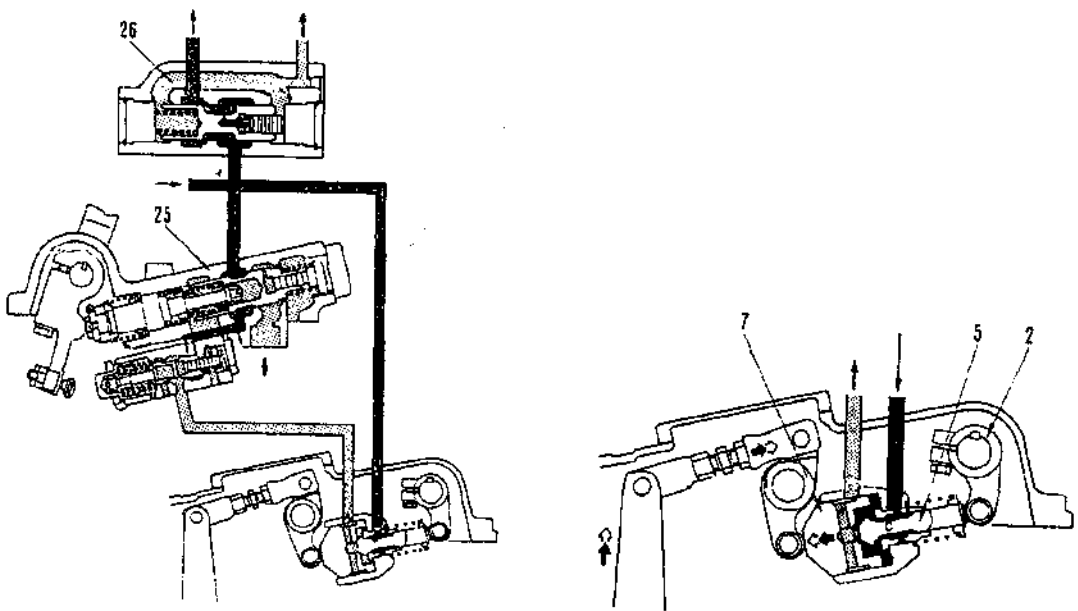

Fig. 2-78
When steering lever is pulled and brake applied: The steering lever is pulled fully to make steering valve move and oil from pump flows to part A. The oil at port A pushes piston (6). The direction of arrow (←) indicates pressure increase direction. The top of piston (6) pushes lever (5) to make braking function. At this time, the normal oil pressure valve in the circuit is 1.66MPa, as shown in Fig. 2-78.